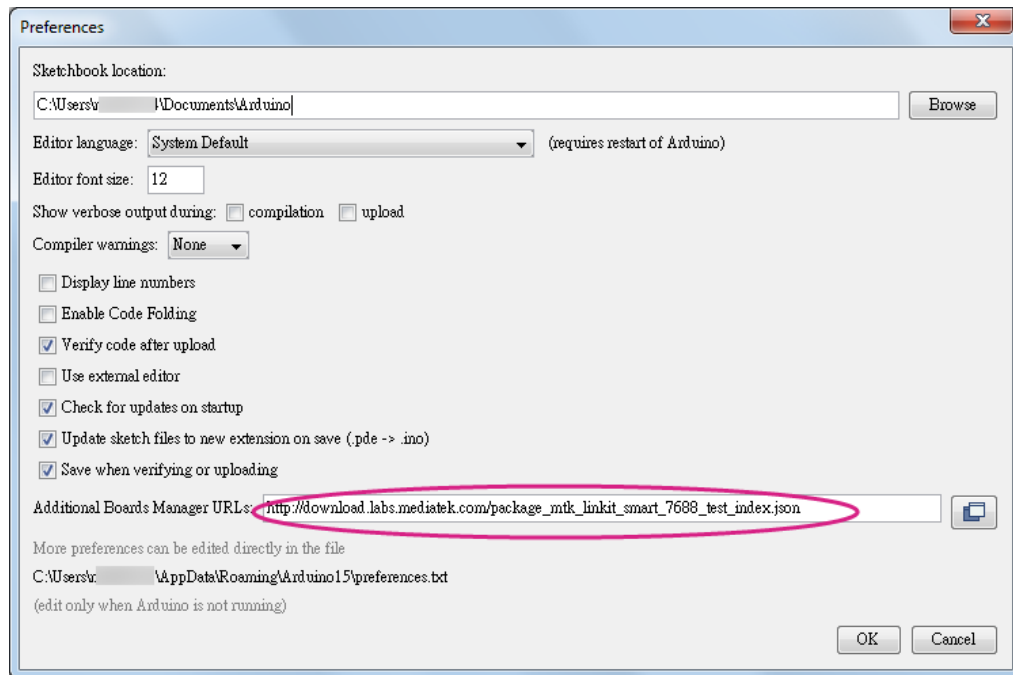

Figure 45 LinkIt Smart 7688 Duo package URL for a custom board installation in Arduino IDE
- 1) In Arduino IDE, on the **File** menu click **Preferences** then insert http://download.labs.mediatek.com/package_mtk_linkit_smart_7688_test_index.json to the **Additional Boards Manager URLs** field as shown Figure 45: